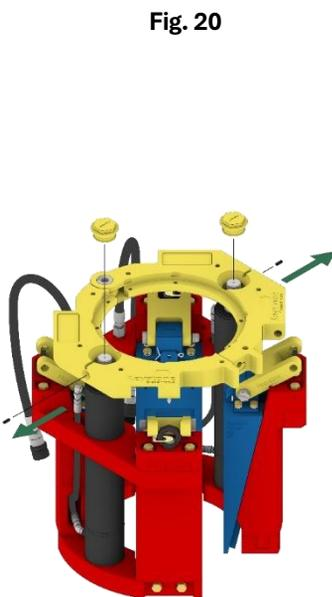

Fig. 22
Step 3: Remove the cylinder cap set screws and cylinder end caps from the leveling plate. Fig. 22